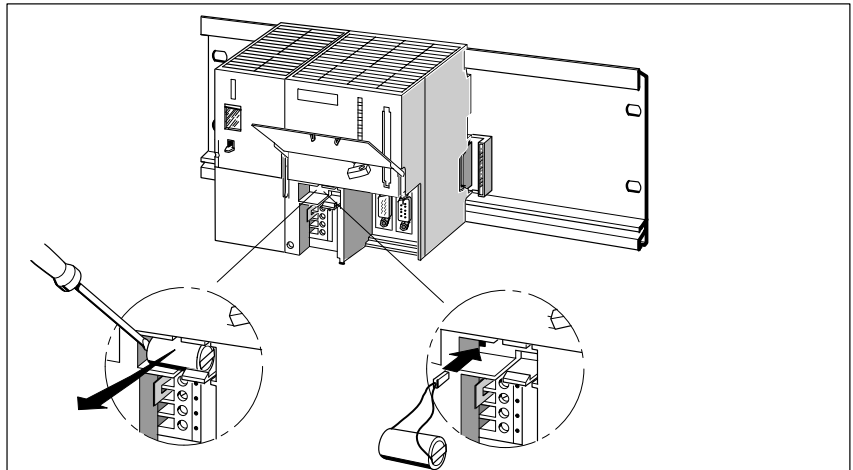

Figure 9-1 Inserting the Backup Battery in the CPU
2. Pull the buffer battery out of the battery compartment (Figure 9-1) and the battery plug out of the socket with the aid of a screwdriver.
3. Push the battery plug of the new buffer battery into the corresponding socket in the battery compartment. The notch on the battery plug must point to the left (Figure 9-1)!